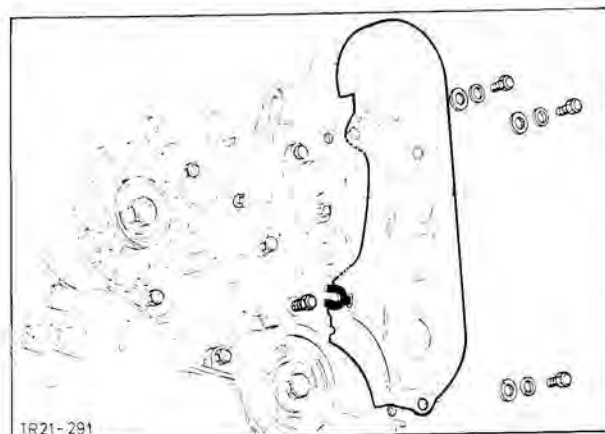

Fig. 237. Fit toothed belt guard (fan removed for clarity)
15. Fit toothed belt guard, Fig. 237. Position V-belt and adjust to achieve 13 mm (0,5 in) play midway between alternator and fan pulleys.